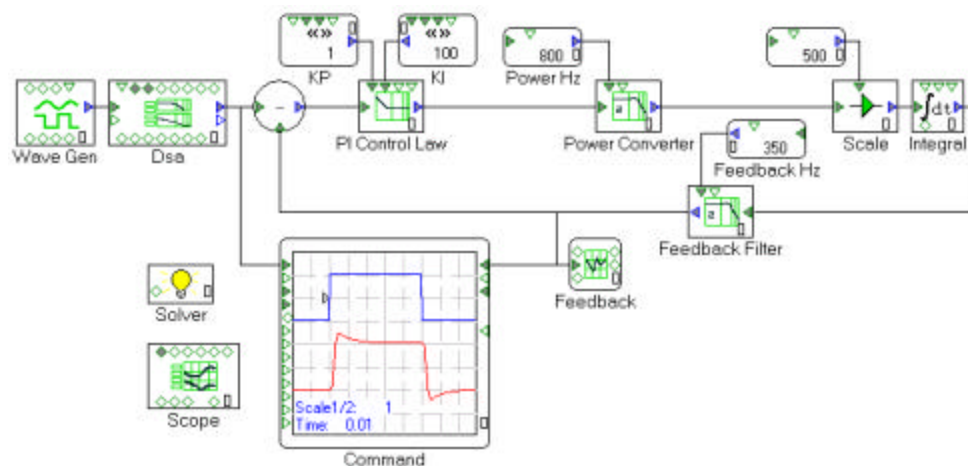
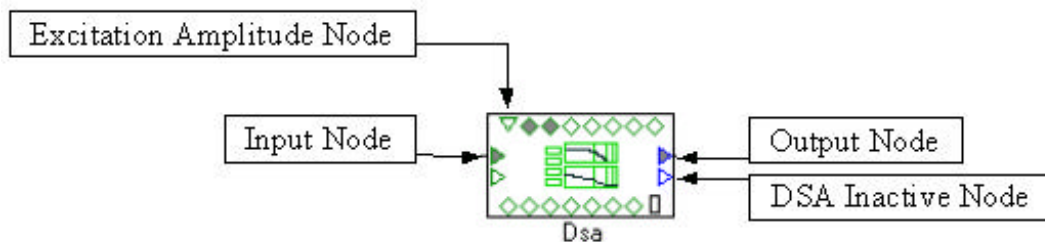

Figure 33. Experiment B: Experiment A with a DSA.
Figure 34. Detail of DSA Nodes.
Control systems often need to be analyzed in the frequency domain. The most intuitive method of frequency-domain analysis for most people is the Bode plot, which graphs gain and phase across a range of frequencies. A gain plot displays the amplitude of an output signal divided by the amplitude of the input signal at many frequencies as if sine waves at many frequencies had been applied to the model, one at a time. A phase plot displays the time lag of the output compared to the input for many sine waves. In the laboratory, the instrument that is commonly used to generate Bode plots is called a dynamic signal analyzer (DSA). *Visual ModelQ* provides a DSA, which is used regularly in Chapters 4 through 8. Experiment B, shown in Figure 33, is Experiment A modified to include a DSA, which is shown just right of the waveform generator.
command response and so will normally be inserted in line with the command as it is in Figure 33. All DSAs read all model variables, no matter how they are wired. In *Visual ModelQ*, the term *variables* includes three types of signals:
- The input to Channel 1 of 2-Channel *Live Scopes*, such as *Command* in Figure 33, and
- *Visual ModelQ* variables blocks such as *Feedback* in Figure 33.
The four most important nodes of a DSA block are shown in Figure 34. At left is the input node. Normally, the DSA is inactive and the input node passes directly to the output node. However, when the user wants a new Bode plot, the DSA is commanded to excite the model. This temporarily disconnects the input node and replaces it with a random signal excitation. The *Excitation Amplitude* and *DSA Inactive* Nodes will be discussed later in Section 2.3.4.5.
The DSA works by generating a random command for a short period of time. The random signal is *rich*—it contains all the frequencies of the Bode plot. During the period of excitation, the DSA monitors all variables in the model. After the excitation, the DSA executes a fast Fourier transform (FFT) to convert the recorded data to a frequency-domain plot. When the random signal is applied to the model, the richness of the signal allows it to excite all frequencies at once. This is ideal for a modeling environment because it minimizes the time the DSA must excite the system. However, it also presents problems. First, the system must remain out of saturation—the power converter must not be driven beyond its maximum during the excitation. If a system is driven into saturation, the excitation amplitude can be reduced using the *Excitation Amplitude* Node at top left of the DSA (see Figure 34). However, if the amplitude is set too low, the signal-to-noise ratio of the system will be insufficient and the Bode plot will be distorted at high frequencies. Setting the amplitude of the excitation is sometimes a matter of experimentation. When doing so, always monitor the power converter output to ensure the system remains out of saturation for the entire excitation period.
All commands except the DSA excitation must be shut off during the excitation period. The DSA will automatically disconnect the input node so that any signals connected to the input are disabled during DSA excitation; this is the case with the waveform generator in Figure 33. If there are waveform generators connected to other parts of the model, the *DSA Inactive* node at lower right of Figure 34 can be wired to disable those generators. The *DSA Inactive* node falls to zero during the excitation period; when wired to a waveform generator *Enable* node, the desired behavior is realized.